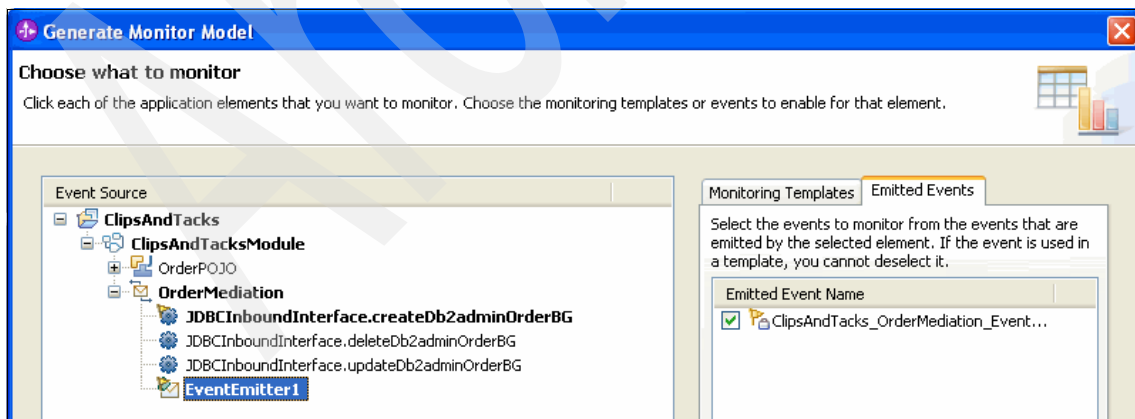

Figure 6-98 Events emitted from the Event Emitter primitive
3. In the Choose what to monitor window (Figure 6-98):